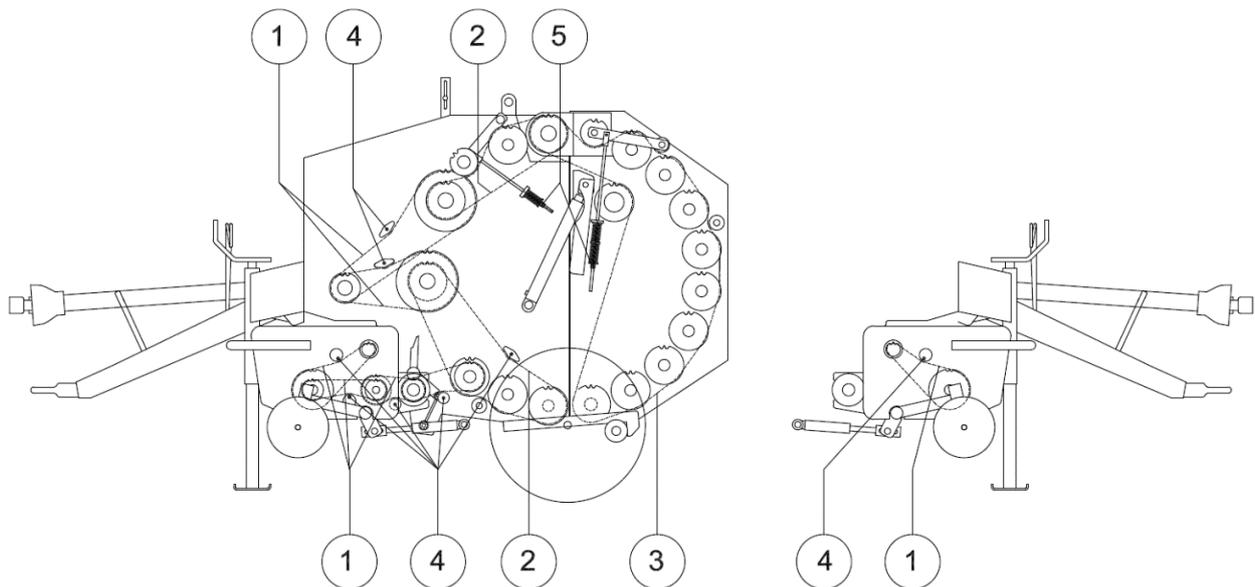

Figure 6 Drive unit
The drive-unit diagram is shown in figure 6. The chains used for the drive are marked with items 1, 2 and 3. Carry out the adjustment of the chain tension with the tensioners (4) or adjusting bolts with a spring (5), respectively.